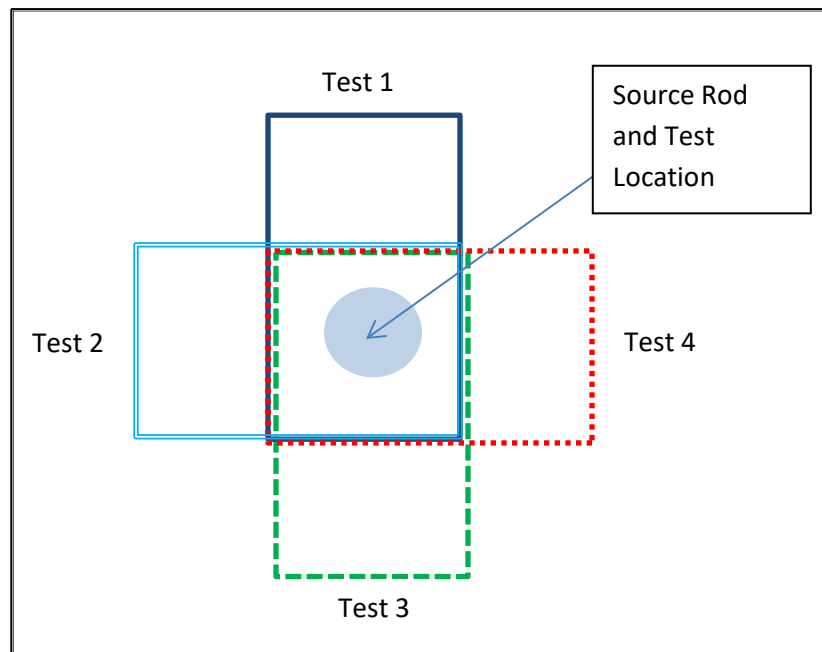

Figure 1. Testing at four 90° locations
- “*Four Nineties*” Test: Four tests shall be conducted at a single location, rotating around the test location 90 degrees at a time, as shown in Figure 1. The four test results will then be averaged to obtain a single test value for that location. Test counts for this approach shall be 15 seconds or longer.